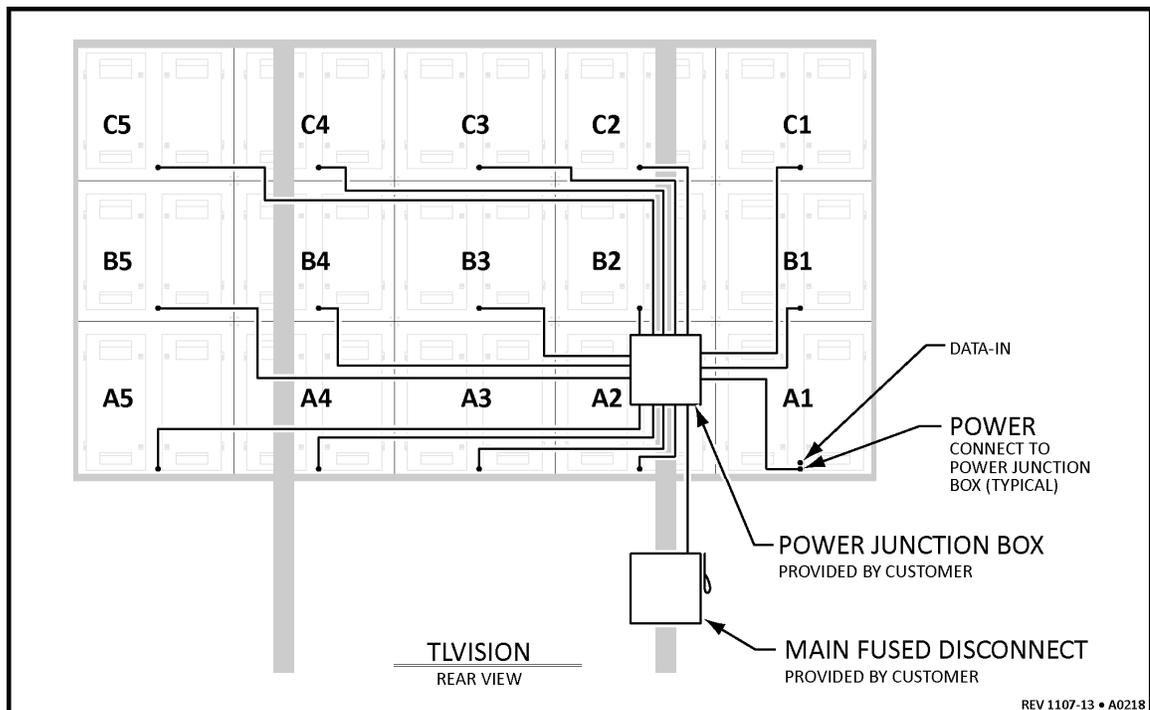

FIGURE 22 — POWER CABLE CONNECTIONS
- All data cable wires must be routed and reconnected to operate all sections. Refer to Figure 22 on page 24 and Figure 25 on page 26.
A fused disconnect (provided by others) is normally mounted on one of the support columns within view of the TLVision face. Refer to Figure 22 below.